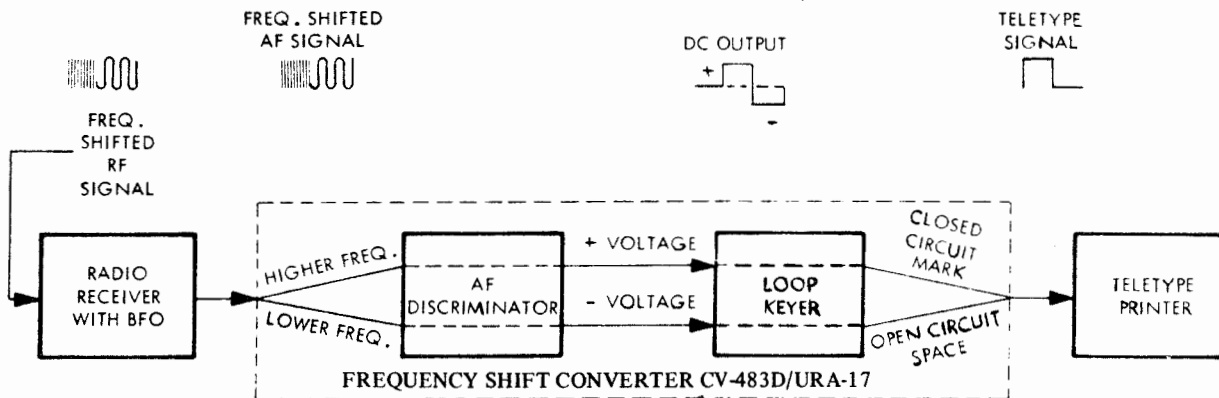

Figure 4-1. Frequency-Shift Receiving System, Simplified Block Diagram
d. SIMPLIFIED BLOCK DIAGRAM. - The simplified block diagram, figure 4-1, indicates the basic functions of converting the rf frequency-shift signal into a signal for controlling the dc loop of a teletype printer. The frequency shifts of the audio-frequency output of the radio receiver are converted into dc pulses by the action of an audio-frequency discriminator. The dc pulses are fed into a loop keyer which opens and closes the dc loop of the associated teletype printer in accordance with the mark and space characters received.
The frequency versus mark-space relationship shown in figure 4-1 is the most typical. The higher frequency represents the mark signal and the lower frequency represents the space signal. However, the opposite is also used, or the tuning and heterodyning of the signal in the receiver may reverse the relationship. When such reversed characters are applied to the teletype printer, garbled copy results. A reversing switch (not shown) is provided on each converter to reverse the relationship when required.